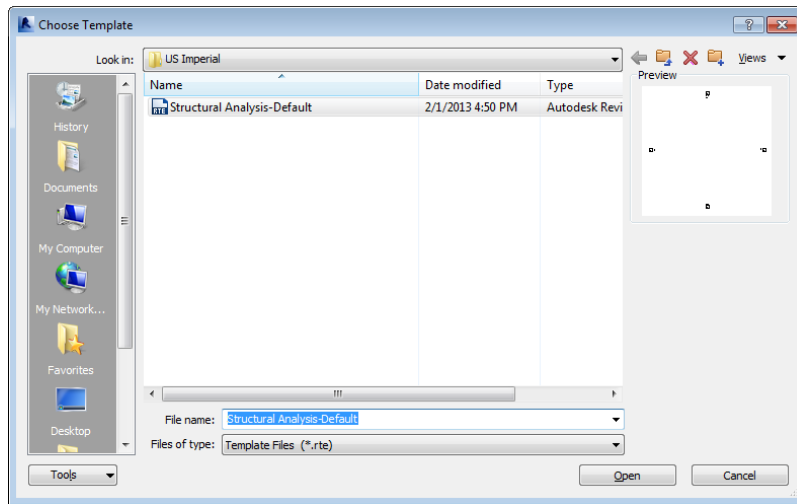

Figure 2-28 The Choose Template dialog box
- b. Use **Structural Analysis-Default.rte** as the template file for the project, refer to Figure 2-28.
2. In the **Choose Template** dialog box, the template file **Structural Analysis-Default.rte** is selected as the default template file, as shown in Figure 2-28. Choose the **Open** button to assign the selected template file to the **New Project** dialog box.